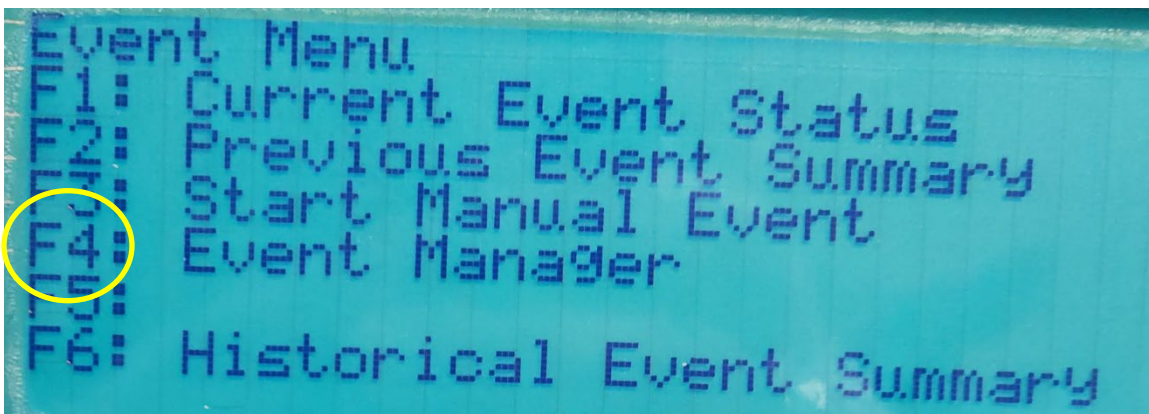

Figure 26: Event Menu
3.5.2 Press “F4” to enter the Event Manager display (Figure 26)
- 3.5.8 In the Event Menu display, press "**F1**" to reach the Current Event Status window (Figure 26).